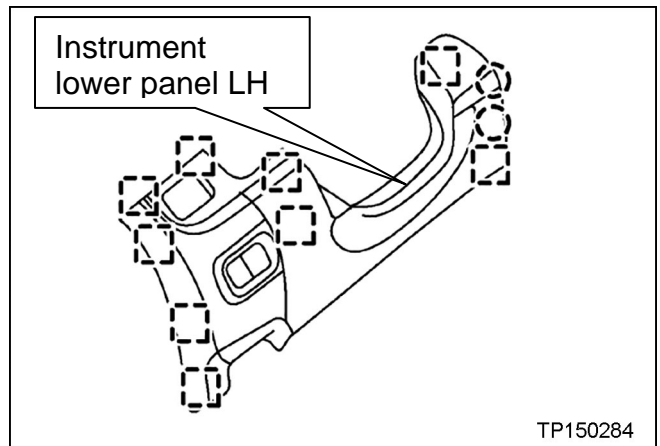

Figure S9
- See Figure S9 for clip and pawl locations.